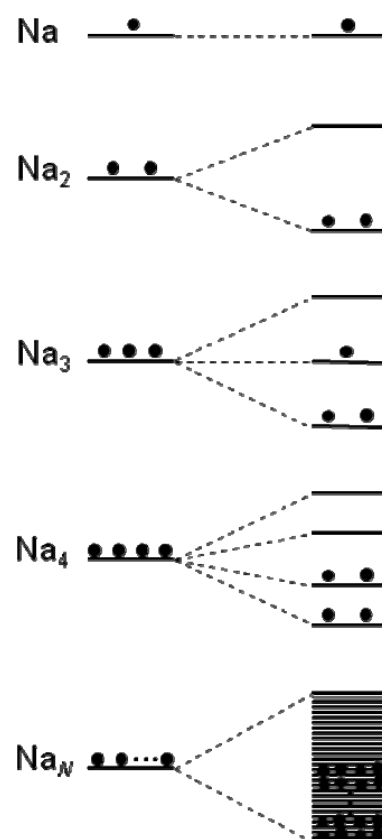

Fig. 1
The electronic structure of condensed matter is usually different from that of an isolated atom. For example, the energy levels of a one-dimensional (1D) chain of Na atoms are illustrated in Figure 1. Here, the energy-level changes of the 3s-derived states of Na are shown. The energy-level spacing decreases as the number of Na atoms (N) increases. At an extremely large N , the energy-level spacing becomes negligibly smaller than the thermal energy, and the set of 3s-derived levels can be considered as a “band” of energy levels (last image in Figure 1). Na 3s electrons occupying the band of energy levels delocalize over the chain leading to a metallic character. Therefore, the 3s electrons can be assumed to be free particles confined in a 1D box.